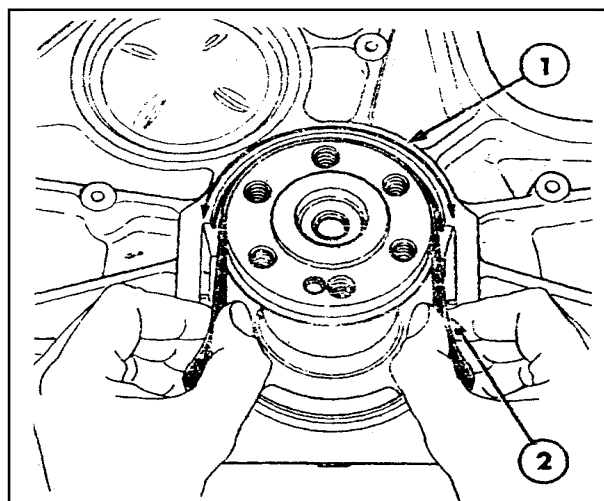

Figure 38
9. Inspect the face and flange for signs of damage. Small scratches and corrosion can be cleaned with a fine grade water proof abrasive paper, ensuring that the direction of cleaning is around the circumference and not lengthwise along the crankshaft, Figure 38. Clean the crankshaft flange and surrounding area thoroughly after using abrasive paper.